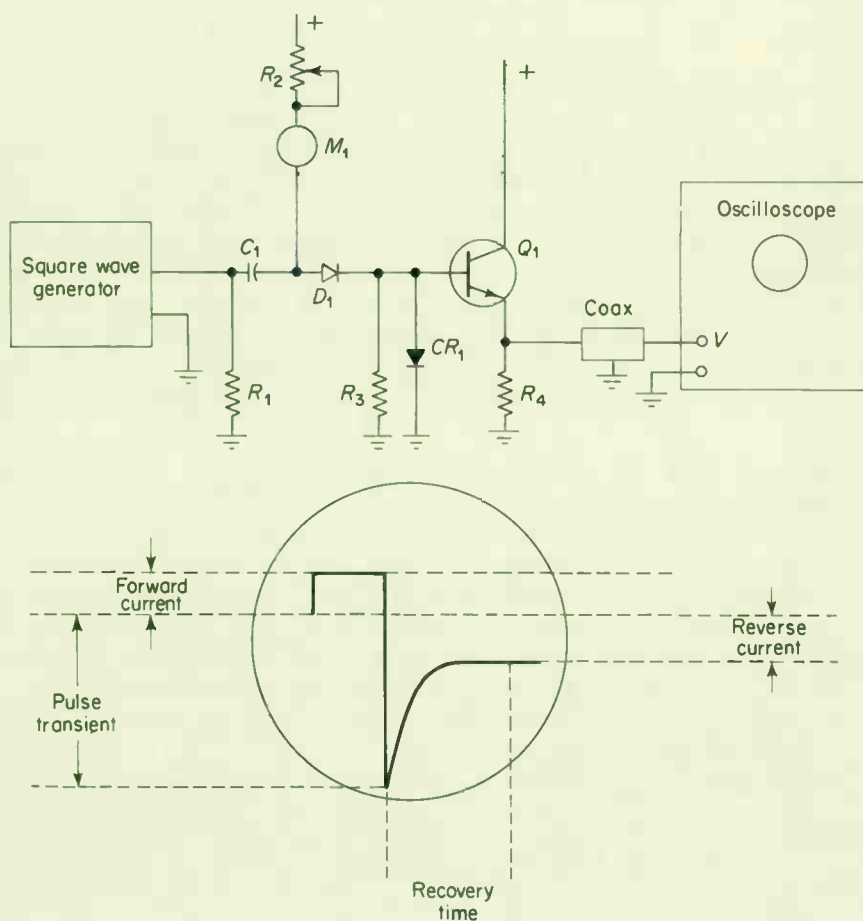

Fig. 9-3. Checking semiconductor diodes for switching time.
As shown in Fig. 9-3, the semiconductor diode is tested by applying a forward-biased current ( $I_f$ , Fig. 9-3a) from the  $B+$  supply, adjusted by  $R_2$  and measured by  $M_1$ . A negative square wave is developed across  $R_3$ . This square wave switches the diode voltage rapidly to a high negative value. The diode does not cut off immediately. Instead, a steep transient is developed by the high, momentary current flow. The reverse current falls to its low steady-state value when the carriers are removed from the junction. The square wave is thus converted to the shape shown in Fig. 9-3a by the diode.
1. Connect the equipment as shown in Fig. 9-3.